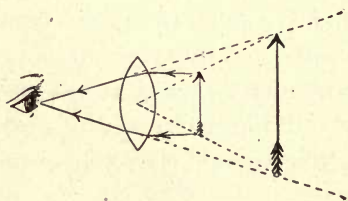

FIG. 203.—A Convex Lens Used as a Magnifying Glass.
**Uses of the Lens.** — The simple microscope is nothing more than a convex lens as shown in Figure 203. An object viewed through such a lens appears in its natural position, but larger. Spectacles are often but a pair of convex lenses of small magnifying power.